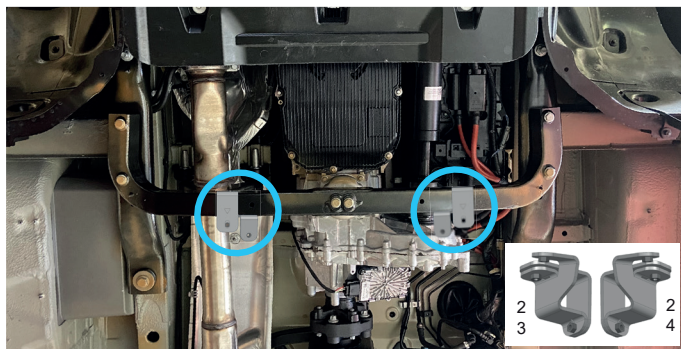
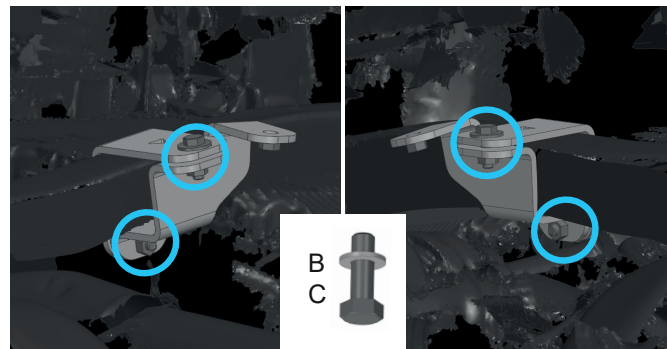

Fig. 1
Fig. 2
1. Put the brackets (item 2,3,4) on the frame, as shown in fig.1. Fix the brackets together, using bolts M8x25 and washers M8 (item C,B), as shown in fig.2.